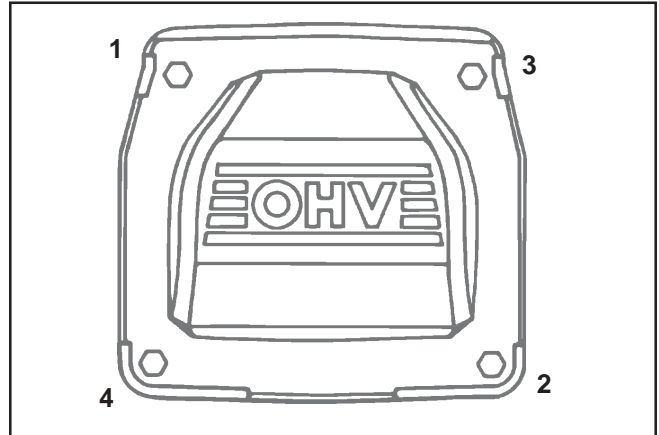

Figure 11-89. Valve Cover Fastener Torque Sequence.
5. Torque the valve cover fasteners to the proper specification using the sequence shown in Figure 11-89.